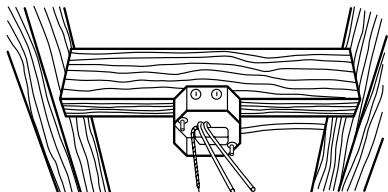

figure 1
1. Pull wire into electrical box and clamp using the connector provided (figure 1).